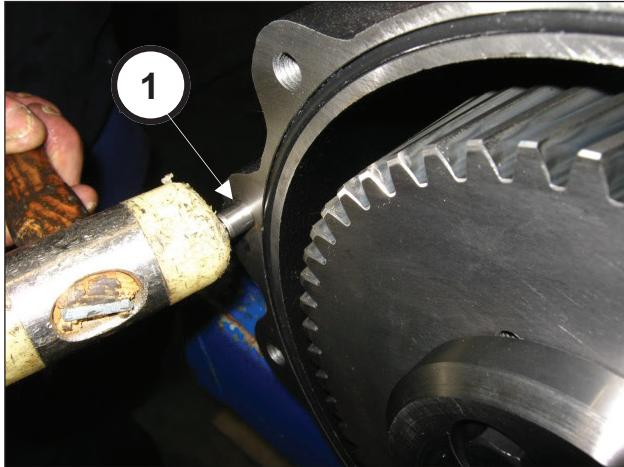
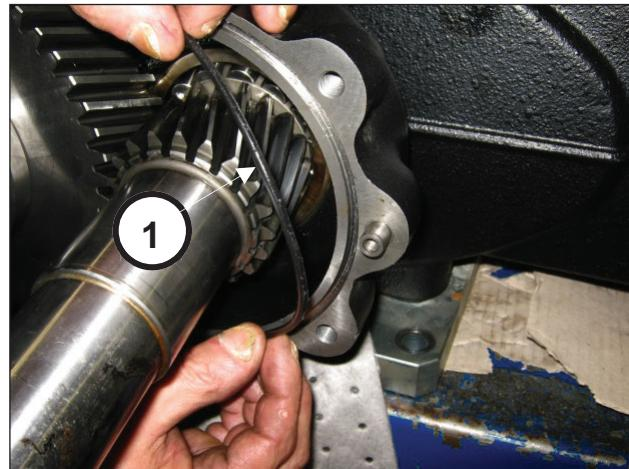

Fig. 83
Fig. 84
Apply the 2 Ø10x24 pins on the reduction gear box (pos. ①, Fig. 83) and insert the O-ring (pos. ①, Fig. 84).